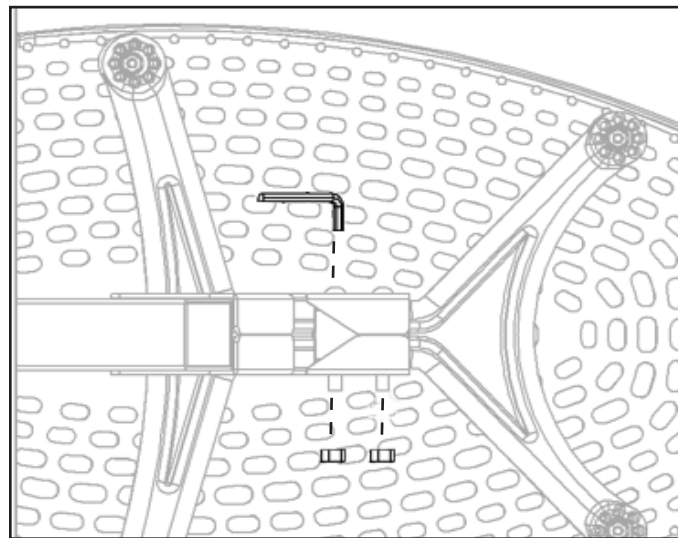

Figure 4
- Use the Allen Wrench to steady (EP-1150) the bolts, tighten the nut onto the bolt with the larger wrench (F5-1088) (Figure 4). Repeat with the second bolt.